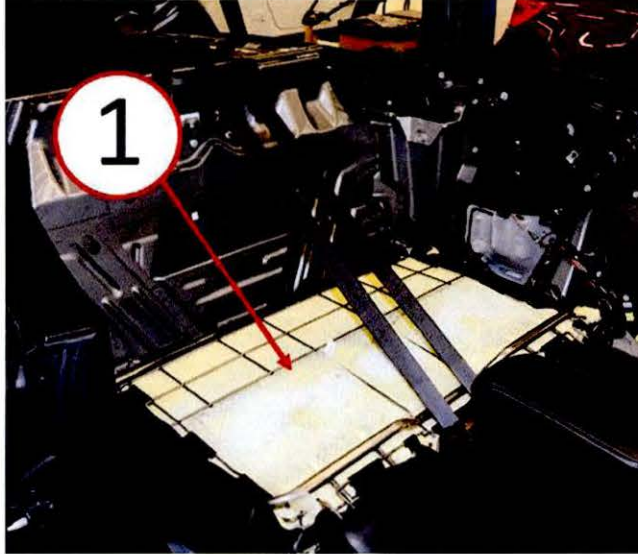

Fig. 11 Seat Back Tilted
14. Tilt rear seat back down for installation access of left rear quarter trim panel (Fig. 11).